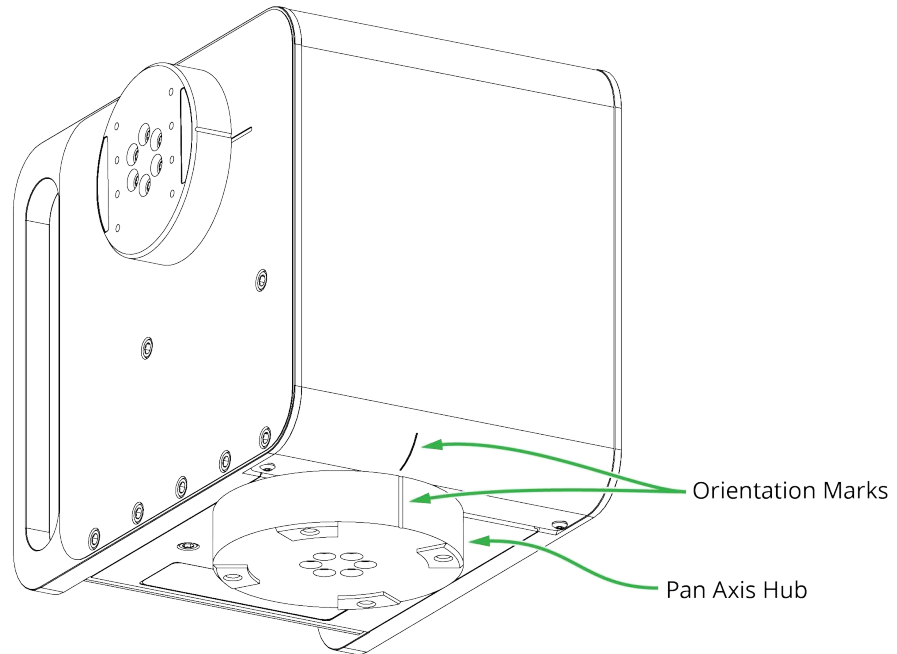

Figure 3 - X300, showing Pan Axis Orientation Marks
1. Find the orientation mark on the **Pan** axis hub and note whether it is aligned with a similar mark at the front of the head (**Figure 3**). The front is the side that is opposite from the connection panel.